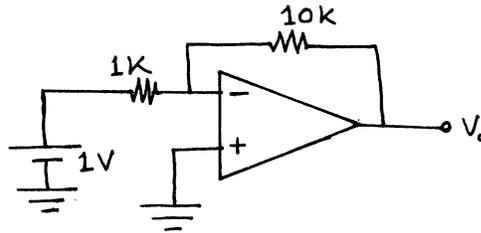

Fig. 4
2. Calculate the output of the inverting amplifier given in Fig.4.
- 1.1 Construct an inverting operational amplifier circuit as shown in Fig. 4. Measure the output voltage to verify the operation of the circuit.